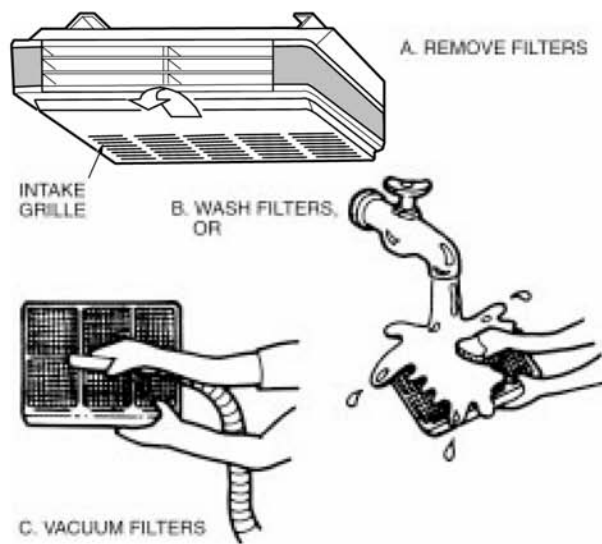

Fig. 23 — Cleaning Filters
II. TO REMOVE AND CLEAN OR REPLACE AIR FILTERS (FIG. 23)
2. Remove the intake grille and distribution assembly (attached). See Fig. 23.